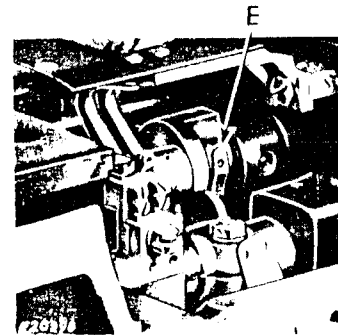
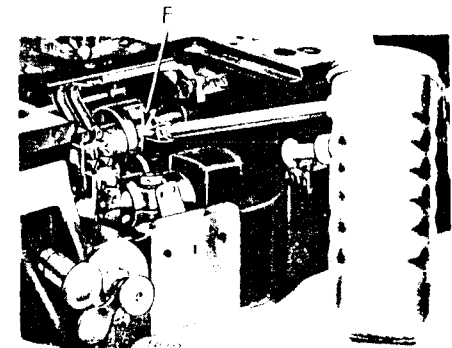

Fig. 7
Fig. 8
2. To fill bed shaft oil reservoir, push spring cover **E**, **Fig. 7** to left, insert spout of pressure oil can in hole **F**, **Fig. 8** and inject six shots of oil into shaft. Close oil spring cover **E**.
Fill bed shaft oil reservoir **F**, **Fig. 8** (approximately 6 shots of oil).